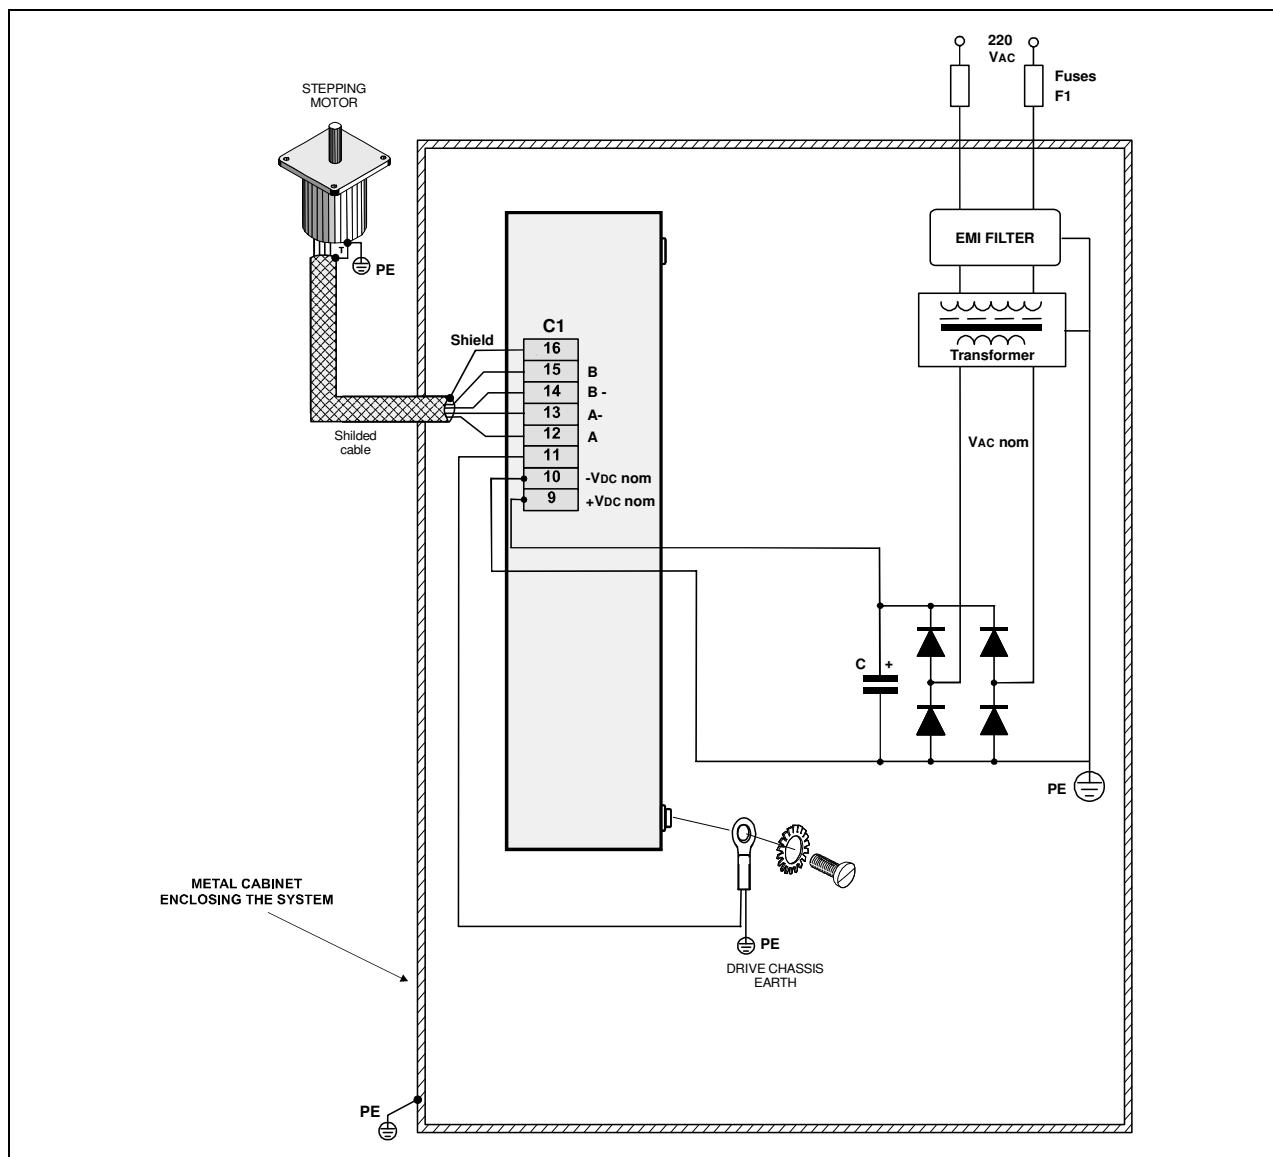

Figure 8 - Drive external connections scheme.
It is possible to use a switching power supply instead of a traditional power supply indicated in Fig. 8, provided that you have a capacitor of at least 1000 μF on the output line of power supply. This capacitor should be located at a distance not greater than 1 - 2 meter from V_{dc} input of the drive. The purposes of the capacitor are:
- 7.4. Fuses F1 (vedi Fig. 8) are time lag with nominal current according transformer power.
- Connect earth line to motor chassis. To reduce the radio-frequency emissions, the mechanical connection of motor to machine chassis (by means of mounting flanges and screws), is typically simple and effective solution. In this case, both screws and chassis must be of conductor material and the chassis must be connected to earth. See Figure 8.